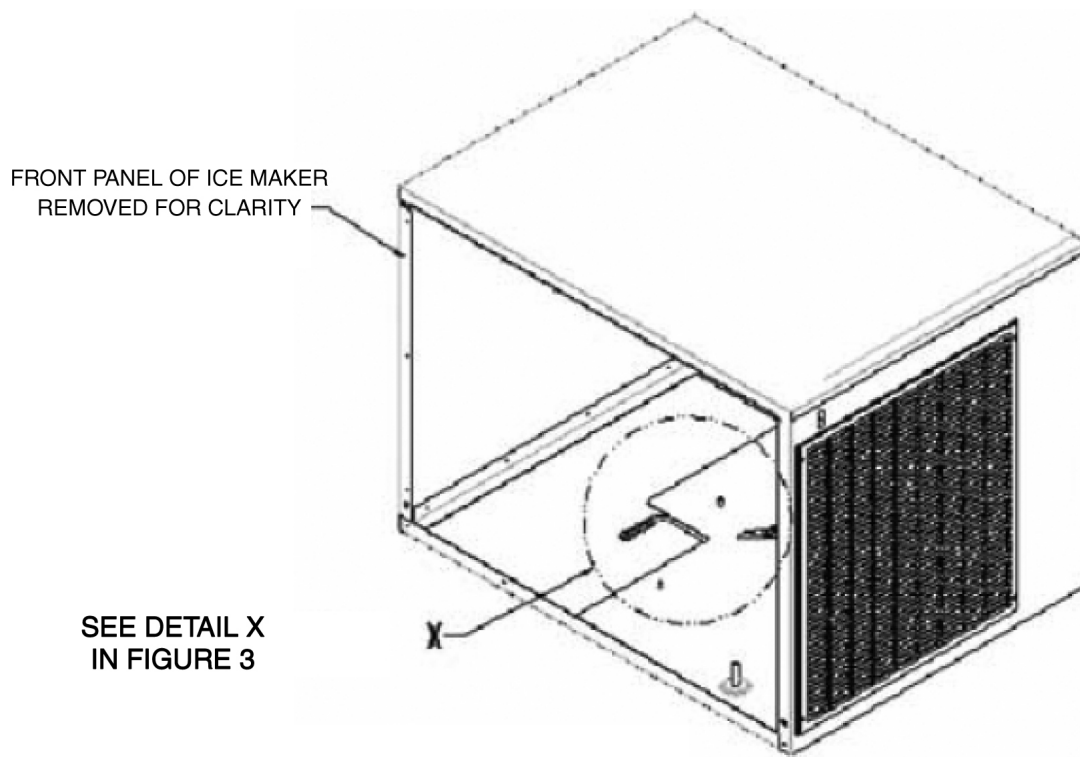

Figure 3.
The dispenser must be secured with 3/8-16 bolts (6) to the counter before installing this Icemaker Adapter Kit. Refer to the installation manual and Figure 3 for the counter mounting template.